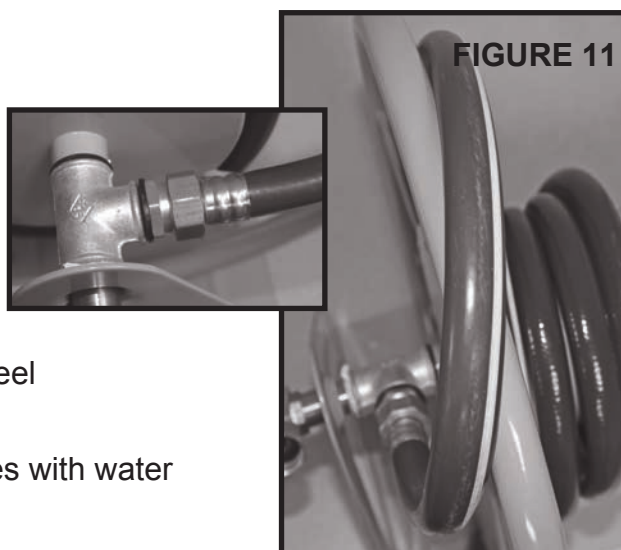

FIGURE 11
11. Attaching your garden hose: Attach your hose to the galvanized tee. Loop the hose over the spool end to avoid kinking. See Figure 11
Model 880 not shown in Figure 11